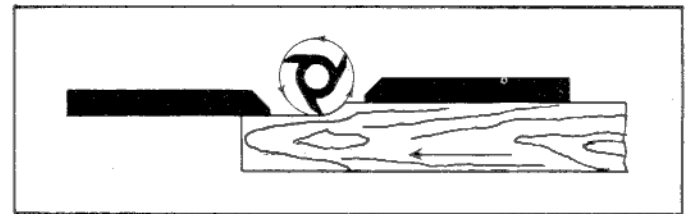

Fig. 26
3. The rear fence should then be advanced to contact the work, as shown in Fig. 26. The rear fence will then be in line with the cutting circle.